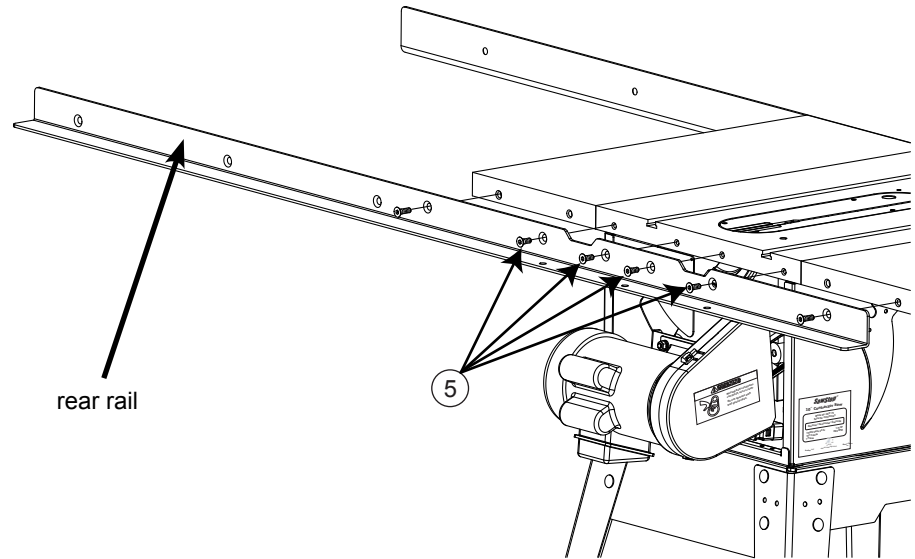

Fig. 6
- Align the rear rail (the smaller of the two rails) with the rear edge of the table top so the cut-outs at the top of the rail are centered on the miter gauge slots in the table and so the holes in the rail align with the holes along the back edge of the table and extension wings. Notice that the holes in the table are threaded but the holes in the extension wings are not. Remove four M8 x 16 countersunk socket head screws from the T-Glide rails hardware pack and thread one through each of the holes in the rail and into the threaded holes in the table (see Fig. 6). Tighten the four screws using a 5 mm hex key.